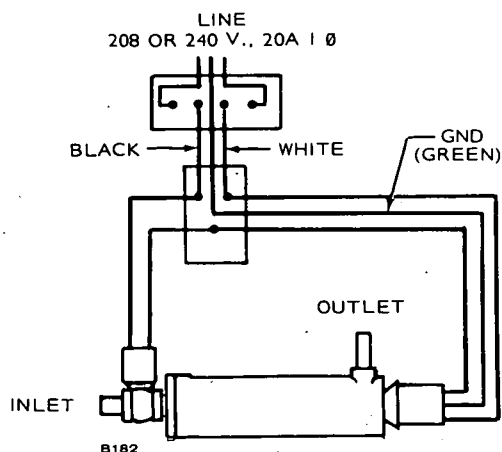

FIGURE 17. ENGINE HEATER (TYPICAL)
**Engine Heater:** The function of this optional heater is to keep the engine warm enough to assure starting under adverse weather conditions. Connect the heater to a source of power that will be ON during the time the engine is not running. Be sure the voltage rating is correct for the heater element rating (Figure 17).